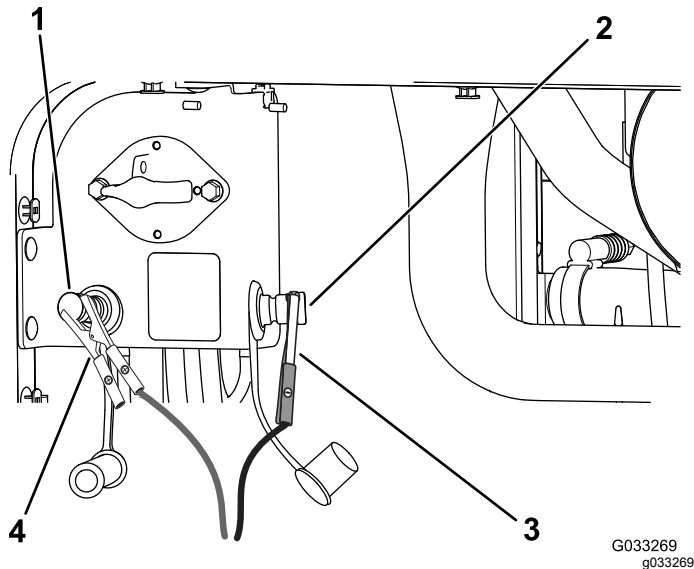

Figure 106
4. Connect the positive (+) jumper cable to the positive jump post (Figure 106).
5. Connect the negative (-) jumper cable to the negative jump post (Figure 106).
7. When the engine starts, have the other person disconnect the negative (-) jumper cable from the negative jump post and then disconnect the positive (+) jumper cable (Figure 106).